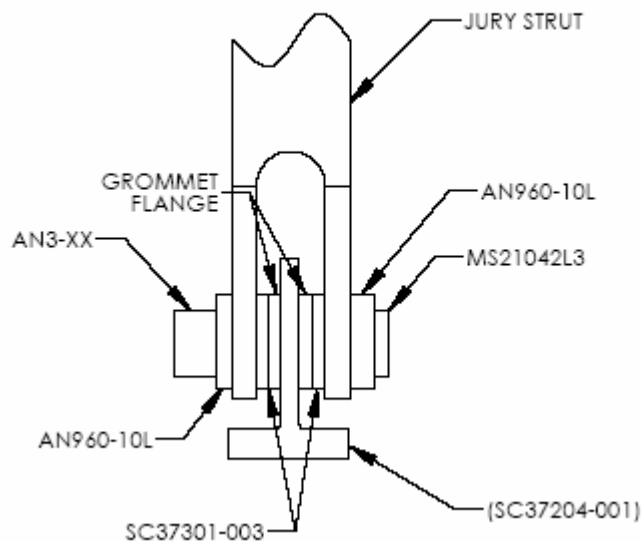
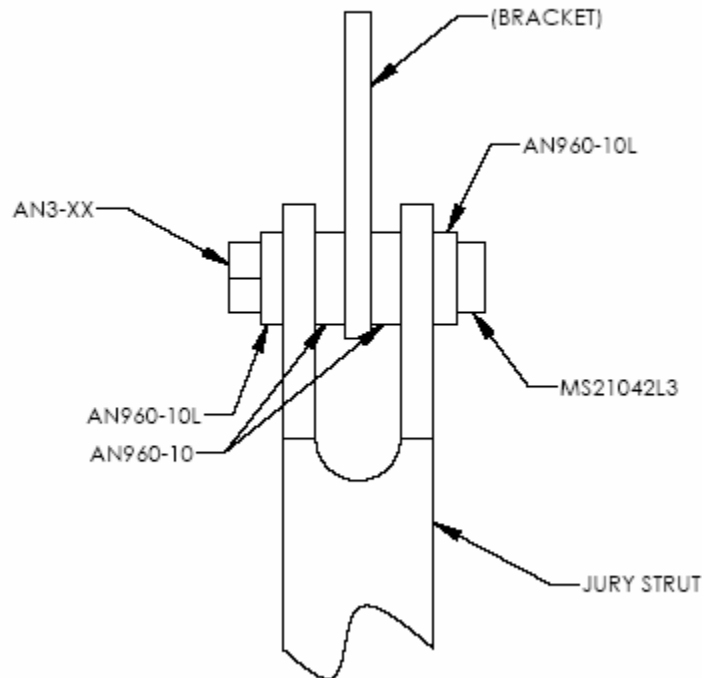

Figure 3 - Lower Jury Strut Attachment Installation
Figure 4 - Upper Jury Strut Attachment Installation
4. Install grommet in lower jury strut fitting (P/N SC37204-001). See Figure 3.
5. Install jury strut as noted (See Figure 3 and Figure 4) with hardware supplied.